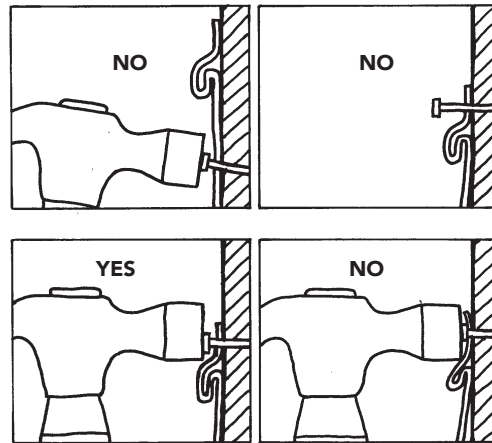

Figure 14
- Do not drive the head of the fastener tightly against the siding nail hem. Allow approximately 1/32" (0.8mm) clearance (the thickness of a dime) between the fastener head and the vinyl. **Tight nailing, screwing, or stapling will cause the vinyl siding to buckle with changes in temperature (Figure 14).**